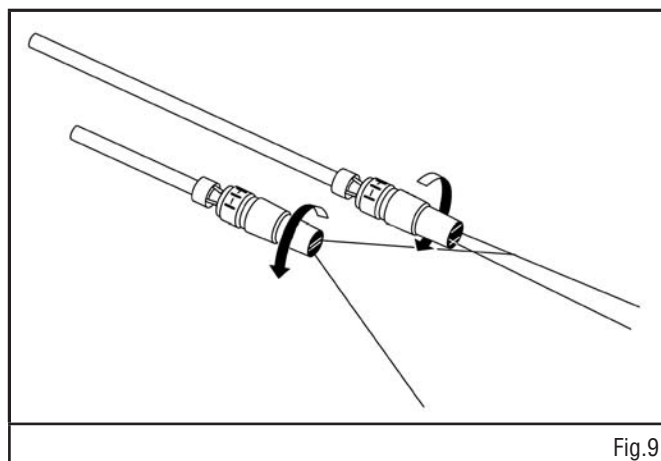

Fig.9
5. The nozzle of the adjustable wand (#5) can be adjusted from fan to jet by turning the nozzle as shown. (Fig. 9)